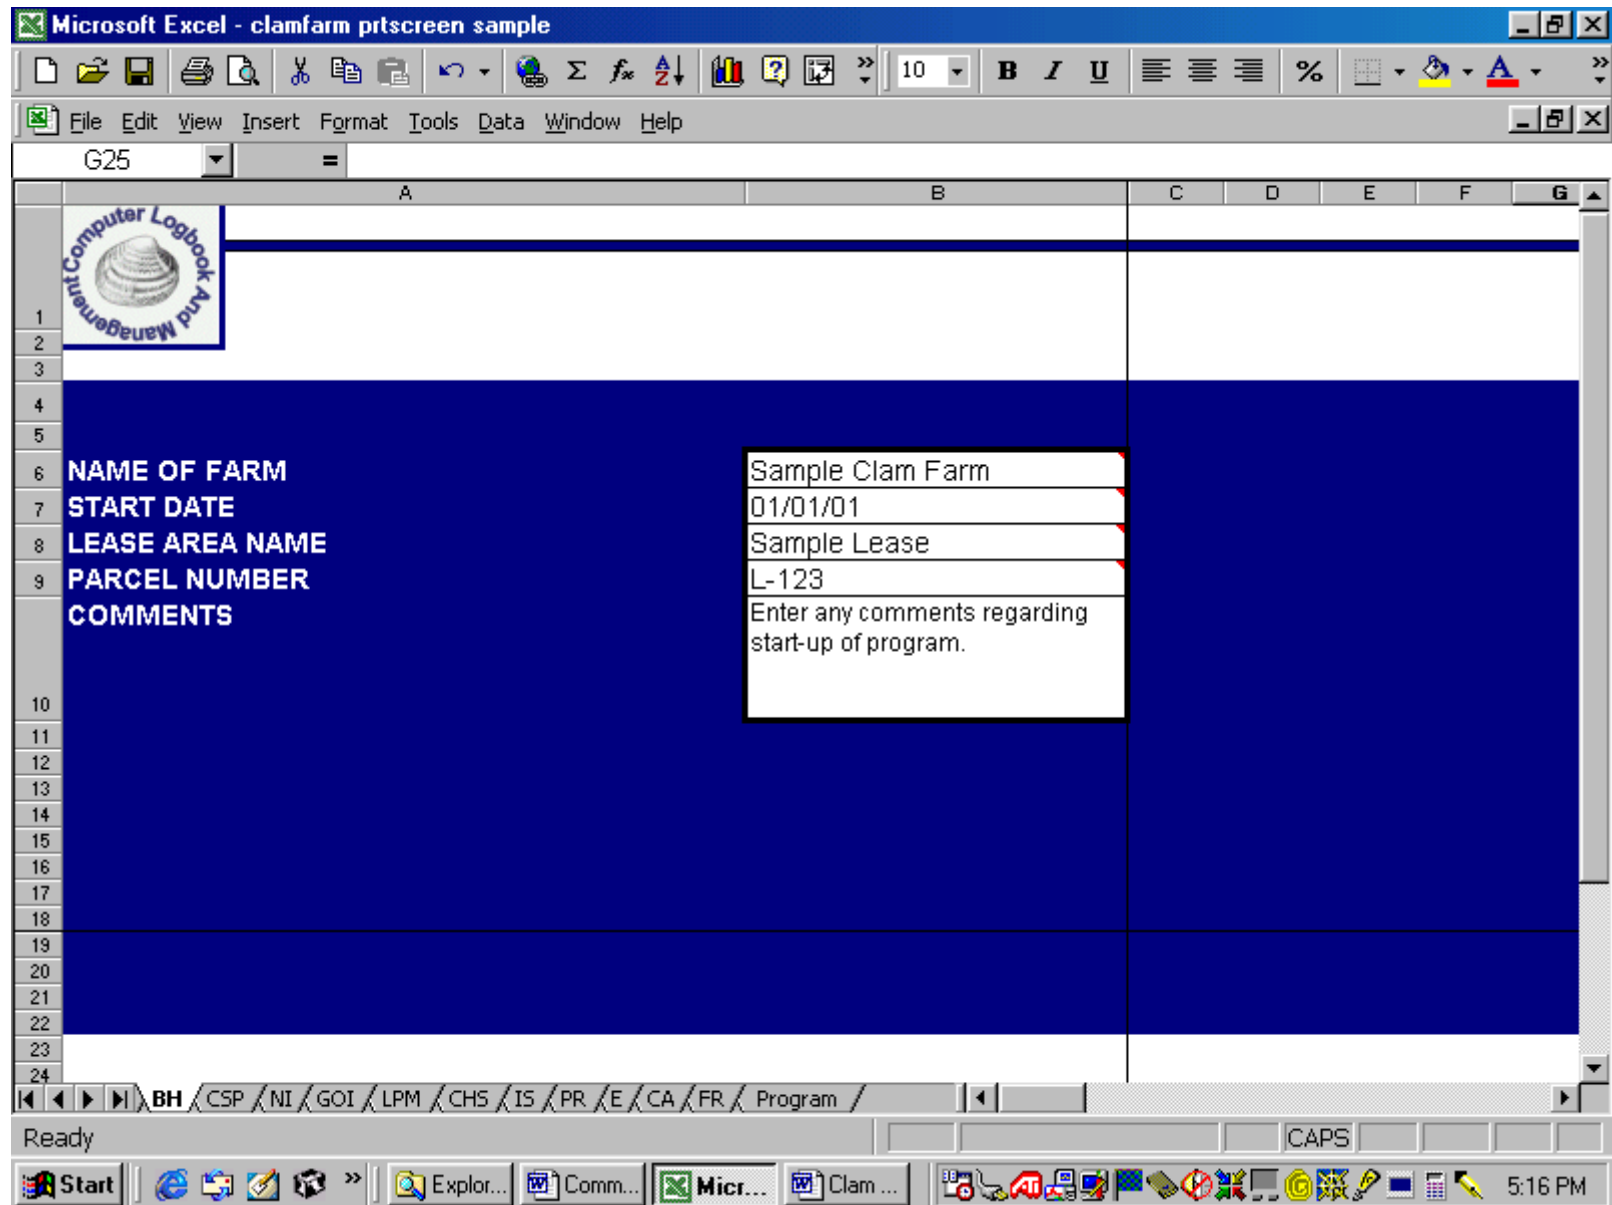

Figure 4.
**This module provides information needed for the user to start the CLAM software program. (see Figure 4)**